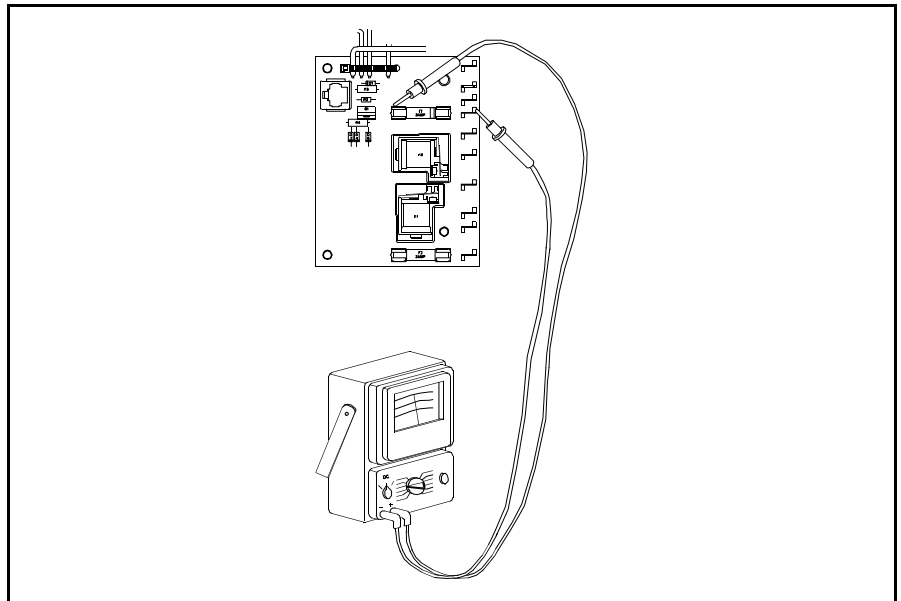

Figure 5.45 3 Amp Fuse Check
- Check the 3 amp fuse as shown in Figure 5.45. To be sure you have 12 volts DC across it. If you do not have 12 volts, replace the 3 amp fuse.